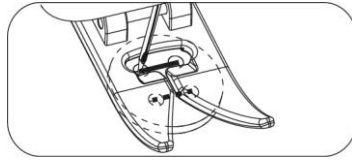

Fig.25
4. Sewing about 5-6 stitches is enough for one button. If the button has four holes, you can change to the other 2 holes when having finished sewing one side. (Fig. 25)